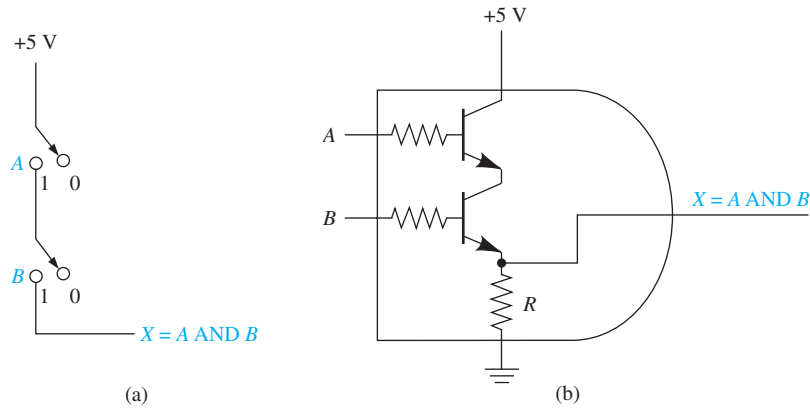
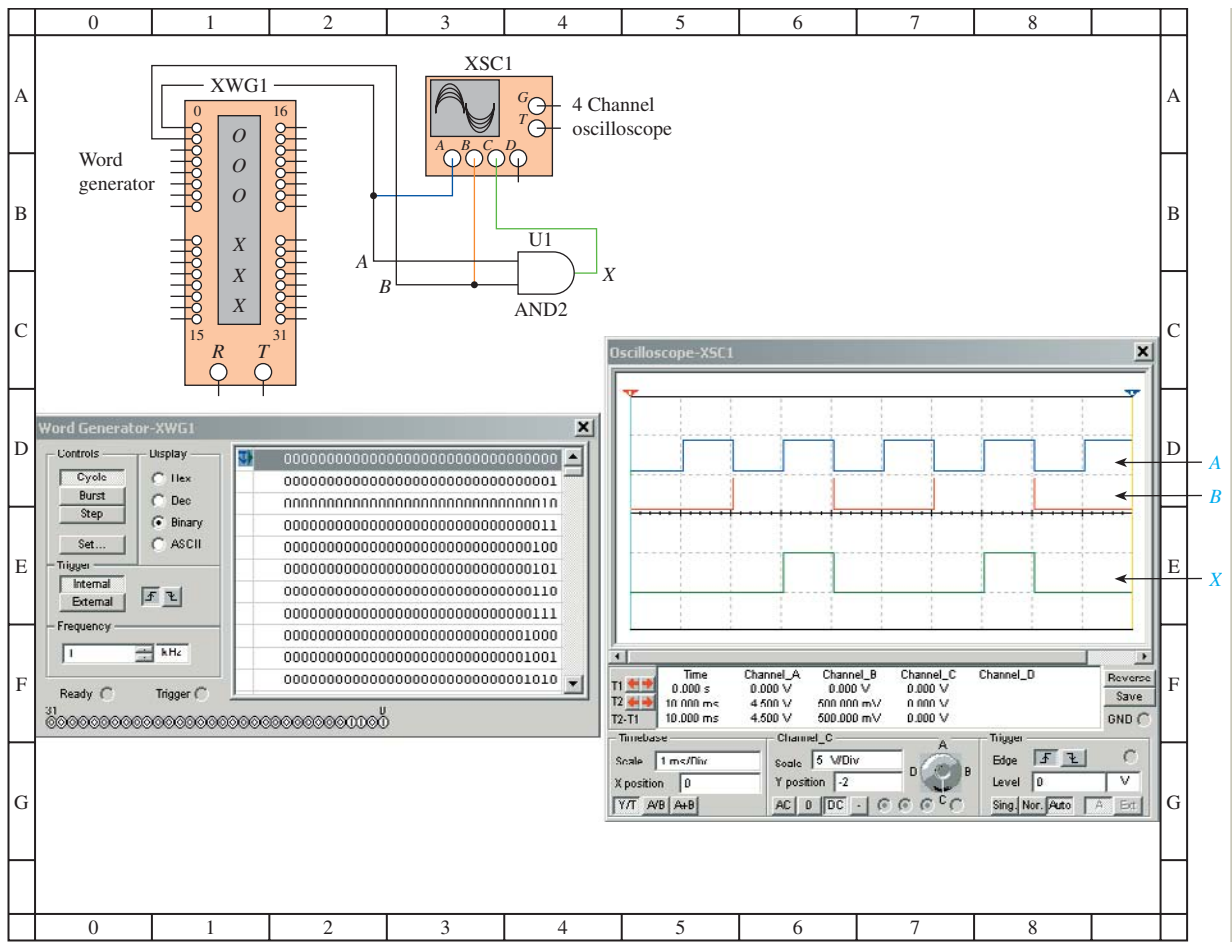

Figure 3 Electrical analogy for an AND gate: (a) using manual switches; (b) using transistor switches.
Figure 11 Using the MultiSIM® Four-Channel Oscilloscope to monitor the input and output waveforms of a two-input AND gate.
Another way to illustrate the operation of an AND gate is by use of a series electric circuit. In Figure 3, using manual and transistor switches, the output at X is HIGH if *both* switches A AND B are HIGH (1).
Figure 3 also shows what is known as the **Boolean equation** for the AND function, $X = A$ and B , which can be thought of as X equals 1 if A AND B both equal 1.
The MultiSIM® analysis of the same two-input AND gate circuit is shown in Figure 11. The Four-Channel Oscilloscope is chosen because we can observe both the *A* and *B* inputs and the *X* output simultaneously. Different colors are chosen for the three signals so that they can be distinguished on the oscilloscope display. Also, the *Y* position of the *A* input and *X* output are adjusted so that the waveforms don't overlay on each other. The Word Generator is set up as an up counter to create the combination of waveforms required for *A* and *B*. (Choose *Set...*, then *UP Counter, Display • Hex.*)
MultiSIM exercise: Use MultiSIM to open the file *fig3_11* from the text website. Run the simulation to create the waveforms shown in Figure 11. Make the following changes to the gate (U1) and rerun the simulation: